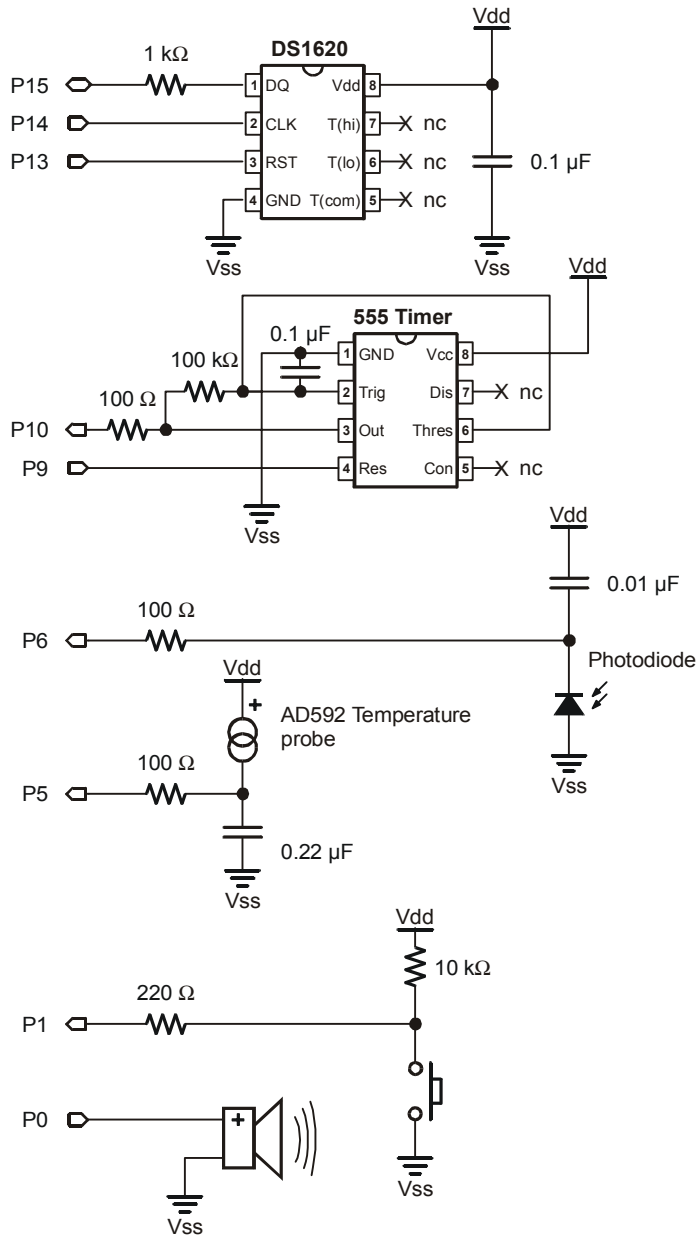

Figure 5-3
- √ Install the 555 timer IC circuit shown in the schematic (Figure 5-3).